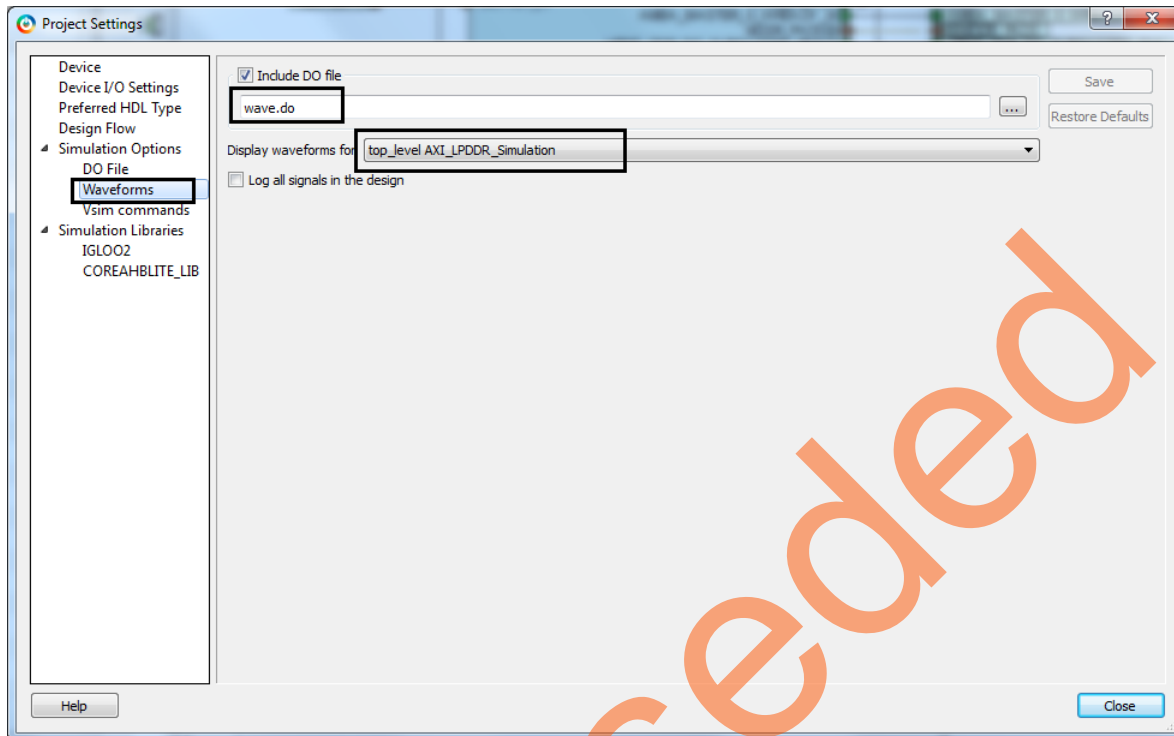

Figure 8 • Waveforms settings
5. Ensure that the **Waveforms** tab has the configuration as shown in Figure 8.